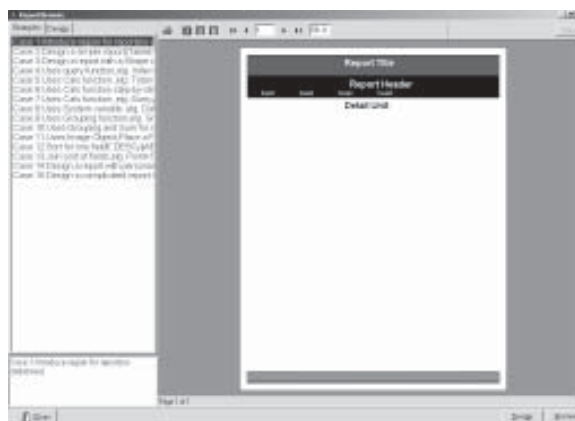
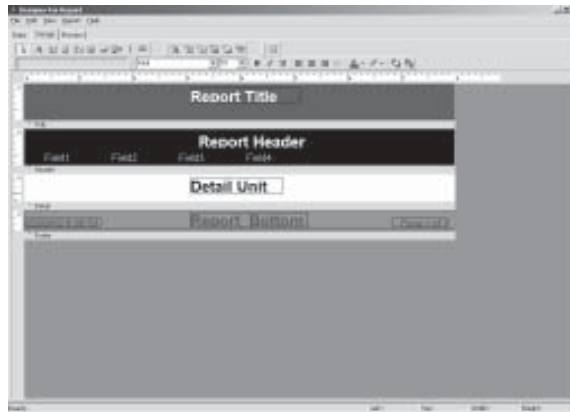

Fig. 8-19 Click the Listing Option Once
Fig. 8-20 Click the Listing Option Twice
1. The example of browsing the report. Select the page key *Examples*. Click the listing option in the listing table, the browsing results will be shown in the sub-interface as in Fig. 8-19. Double click the listing option, the designing interface will be shown as in Fig. 8-20. And the example is non-changeable.